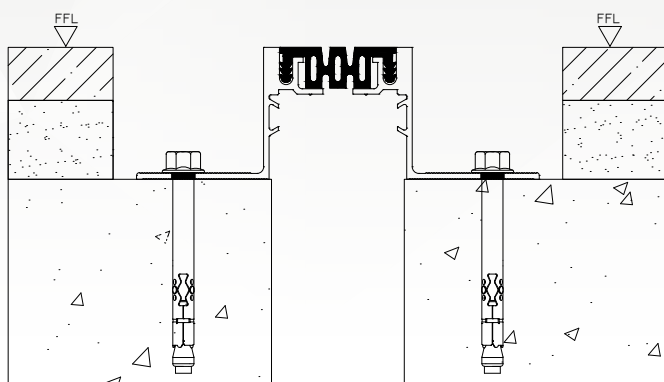

Figure 8.
11. Select the fasteners and the assembled joint cover. Place the assembled joint cover back into its installed position, aligning the anchor holes in the assembly with the anchor holes in the substrate. Shim the system as needed to assure that it is level with the finished floor and level along its run. Ensure that the joint cover system is level, firmly supported, and properly aligned. Fasten the assembled joint cover to the substrate (see Figure 8 & 9). Repeat this procedure for each section of the joint cover system.